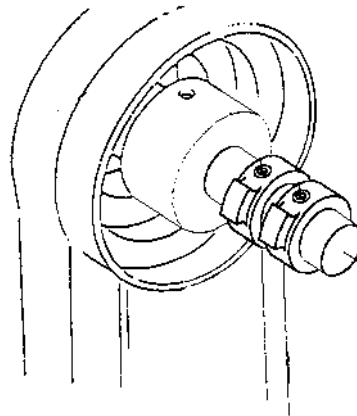

Figure 8.2
- d) Holding the hand wheel securely, move **needle up sensing ring** (figure 8.2) until edge 7 is in the middle of the sensor.